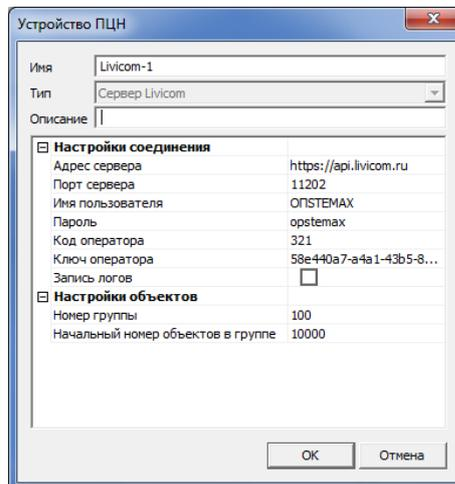

Figure 5.5. – System devices
- 4) The created *Livicom Server* receiver-transmitter card opens (see figure 5.5).